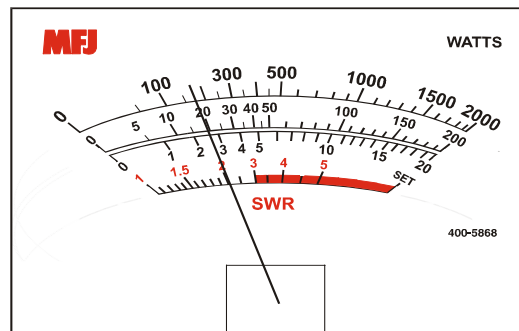

Figure 2: Power and Standing Wave Ratio Scales for MFJ-867 Giant SWR/Wattmeter
1. The MFJ-867 Giant SWR/Wattmeter has three power scales. Refer to Figure 2 below for scale location and scale mark representation.
1. The **MFJ-867 Giant SWR/Wattmeter** has one standing wave ratio scale. Refer to Figure 2 above for scale location and scale mark representation.